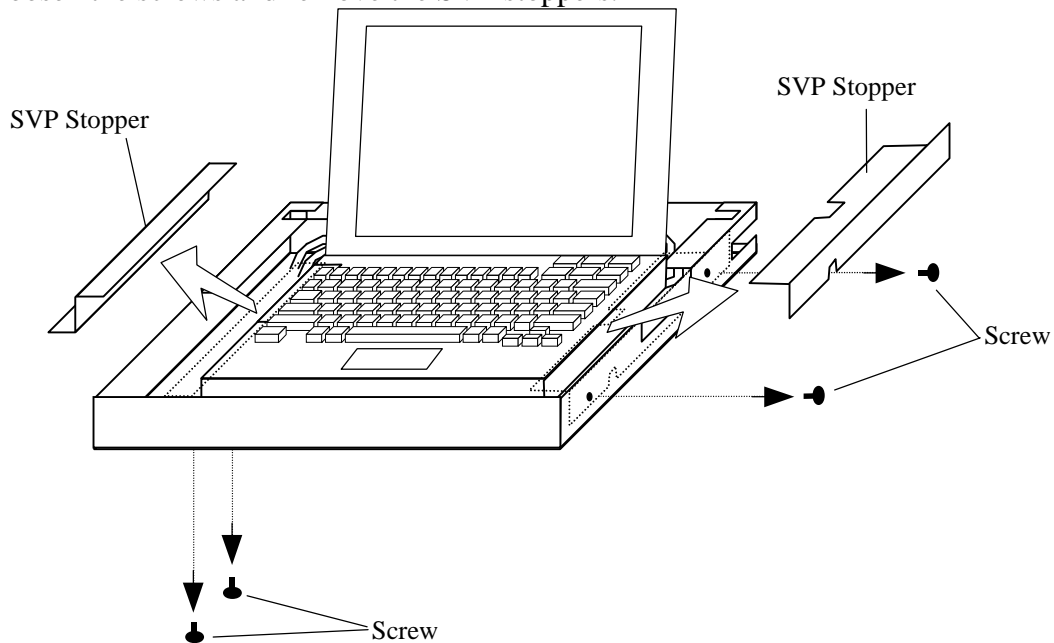

Fig. 4.9-13 Removing and installing the SVP Stoppers
- b. Install the SVP to the SVP ASSY and attach the SVP stoppers with screws. (See Fig. 4.9-13.)